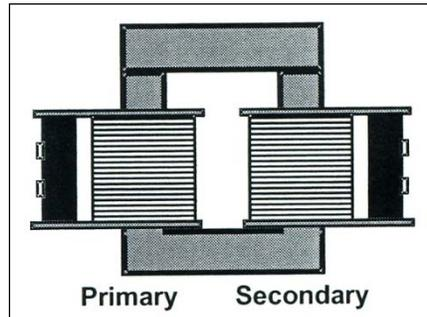

Fig. 4: The experimental setup of the transformer with looped iron core in step 13.
13. Place the iron bar on top of the U-shaped iron and screw it down with the threaded pin as shown in Fig. 4. Adjust  $V_P$  2 volts, and measure  $V_S$ .